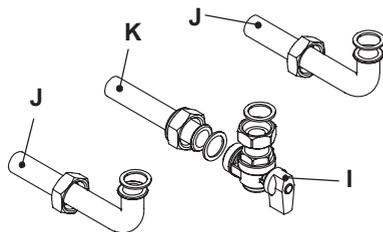

Fig. 6.3
- Fix the gas cock I (¾") to the boiler using the ¾" gasket (Fig. 6.3)